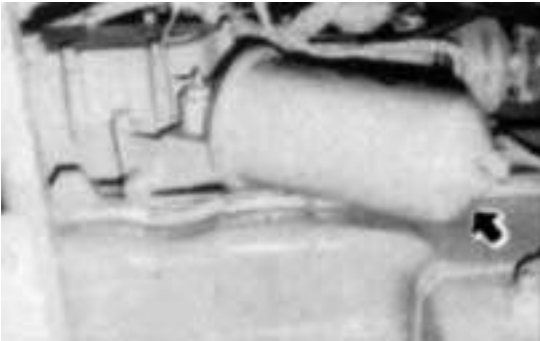

FIGURE 3-21
1. Position a container to catch the drain oil beneath the engine oil filter. See Figure 3-21.